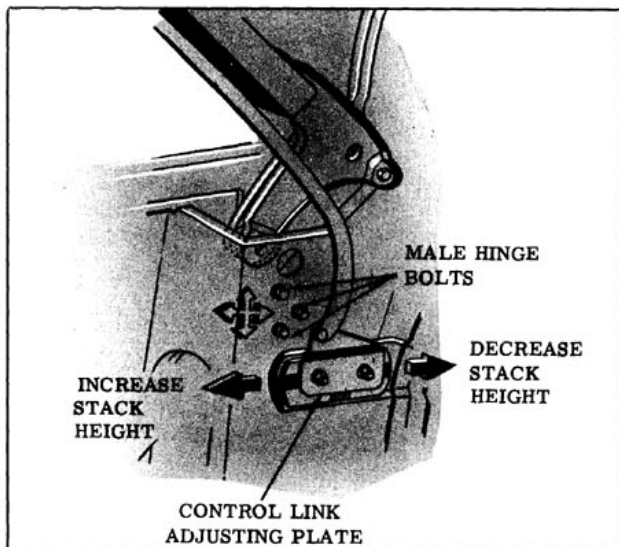

Fig. 16-121 Control Link Adjusting Plate
3. Loosen two bolts securing control link adjusting plate sufficiently to permit adjustment of plate. (Fig. 16-121)
2. Loosen male hinge assembly attaching bolts. (Fig. 16-121)